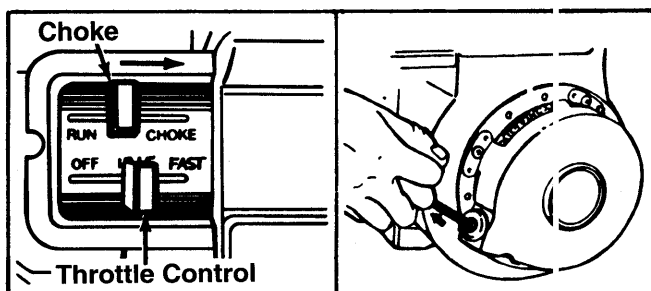

FIGURE 8.—Model 645 Shown
1. Place the throttle control lever in FAST position. See figure 8.
4. Grasp starter handle (see figure 8) and pull rope out slowly until engine reaches start of compression cycle (rope will pull slightly harder at this point). Let the rope rewind slowly.
1. Move throttle control lever to STOP position. See figure 8.